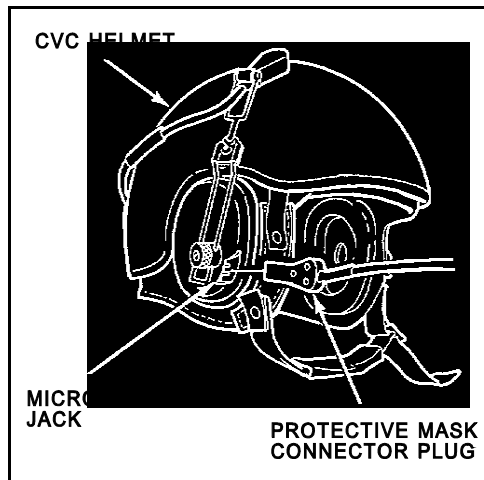

Figure 1. Attach mask microphone plug.
- c. Disconnect the microphone plug from the CVC and connect the mask microphone to the microphone jack on the CVC (Figure 1).